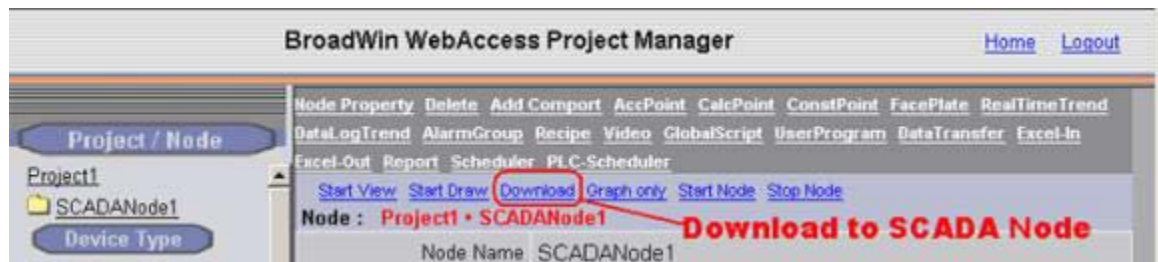

Figure 3-9 - SCADA Node Main page (Main.asp) - Download
1. Select the SCADA Node under your Project Name in the Project/Node list (Figure 3-9).
5. From Project Manager select **Start node** (Figure 3-9).